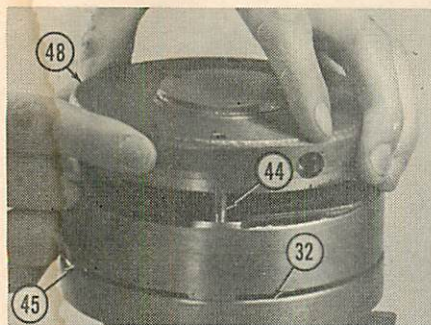
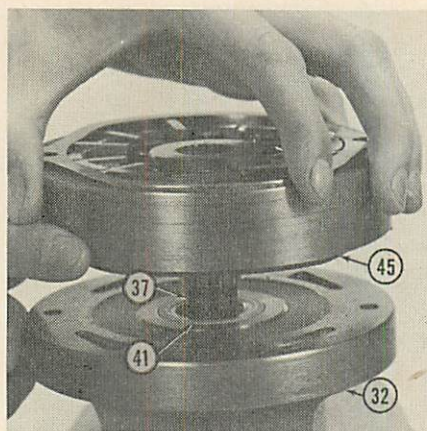
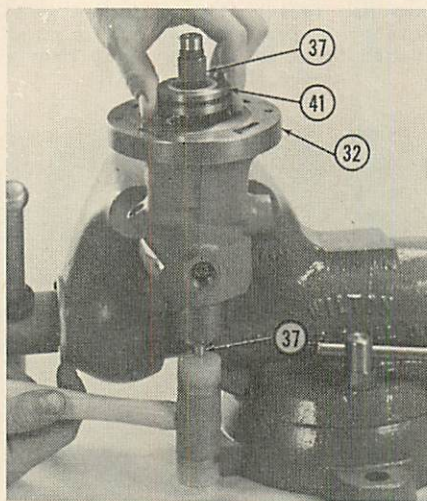
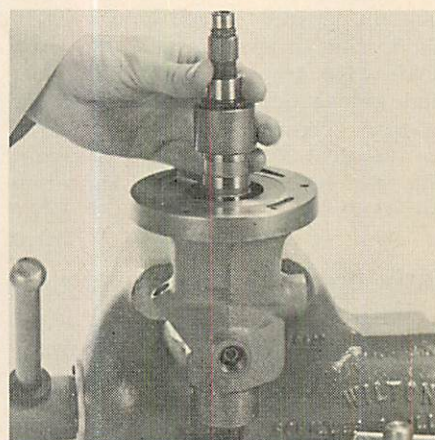

Fig. O38 — Removing pressure plate (48) from dowel pins (44).
Fig. O40 — Lifting the pump ring and rotor assembly (45) from stub shaft (37) and housing (32). Bearing support is (41).
Fig. O41 — Tap on end of stub shaft (37) with soft faced mallet to bump bearing support (41) out of housing.
Fig. O43 — Removing the actuator assembly (stub shaft and control valve spool) from housing. Be careful not to cock spool in bore of housing.
then lift off pressure plate as in Fig. O38. Remove dowel pins as in Fig. O39, then remove snap ring (46) from stub shaft (37) with suitable snap ring pliers and screwdriver; discard snap ring. Pull pump ring and rotor assembly (45) up off of stub shaft as shown in Fig. O40. Tap end of stub shaft with soft faced mallet as shown in Fig. O41 until bearing support (41) can be removed, then carefully remove actuator assembly from housing as shown in Fig. O43. Note: It is recommended that the actuator assembly not be disassembled as it is a factory balanced unit and serviced as an assembly only.